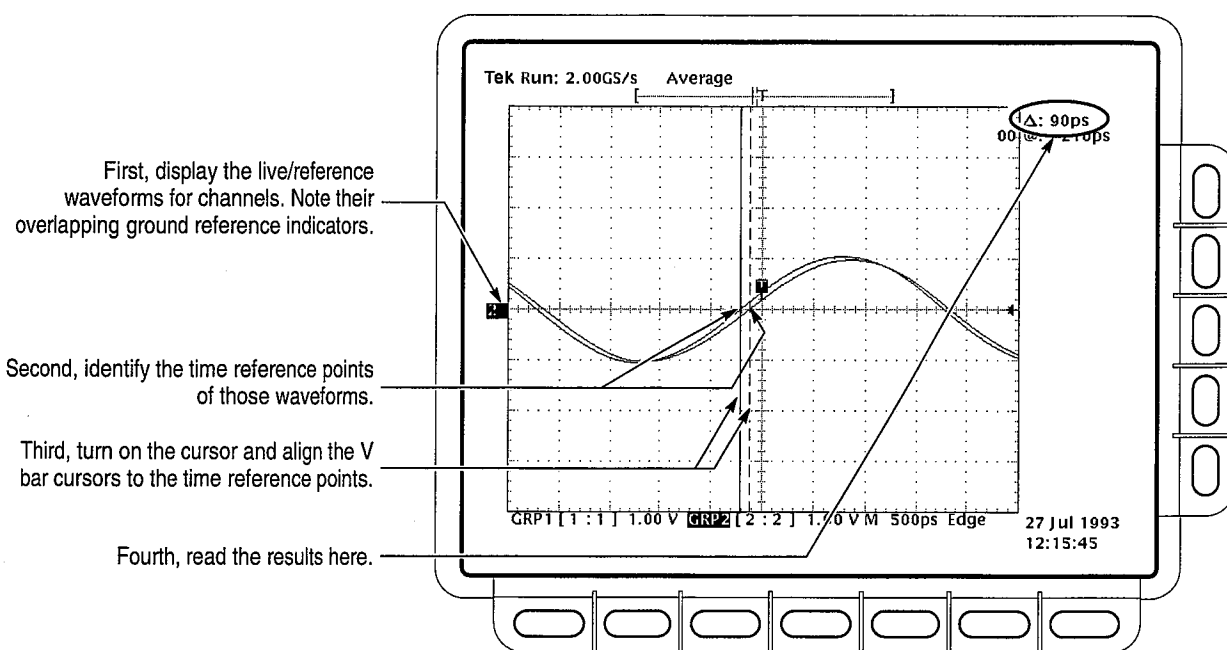

Figure 1-12: Measurement of Channel Delay
- b. Locate the point on the rising edge of the left-most waveform where it crosses the center horizontal graticule line. This is the *time reference point* for this waveform. Note the corresponding *time reference point* for the right-most waveform. See Figure 1-12.
- e. Rotate the General Purpose knob to align one cursor to the *time reference point* of the left-most waveform edge and the other cursor to the *time reference point* of the right-most waveform edge. (Press **SELECT** to switch between the two cursors.) See Figure 1-12.